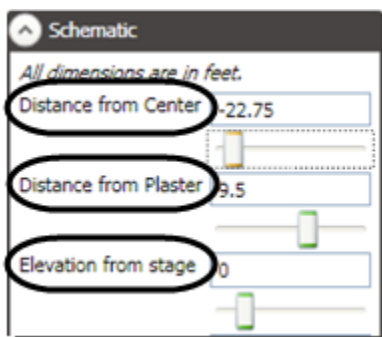

Figure 270
4. Now, move the winch into position so that it matches your stage. Use the **Distance from Center**, **Distance from Plaster** and **Elevation from stage** field sliders (Figure 270) to get the position close. You can then fine tune the position by typing in accurate dimensions from your ground plan.